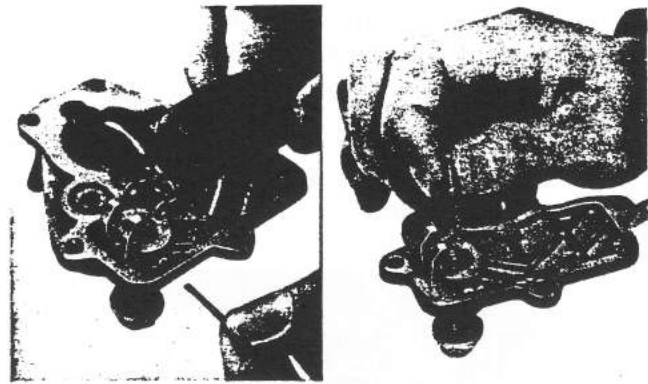

Fig. 181
- a. Pull out the float pin from the air horn, and remove the float. (Right in Fig. 181)
- b. Remove the valve spring and needle valve. (Left in Fig. 181)